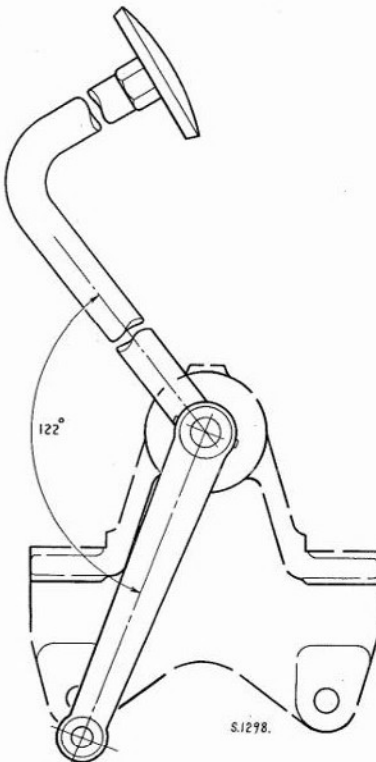

Fig. C.26. Accelerator pedal assembly, showing the angular disposition of the relay lever (R.H.D. Models)
1. When the accelerator pedal shaft is in position ensure that the distance piece is located over the inner end of the shaft, and that the lever assumes the correct angular position as noted during dismantling operations (see Fig. C.26). Drill the lever and shaft, securing the components using a Mills pin.